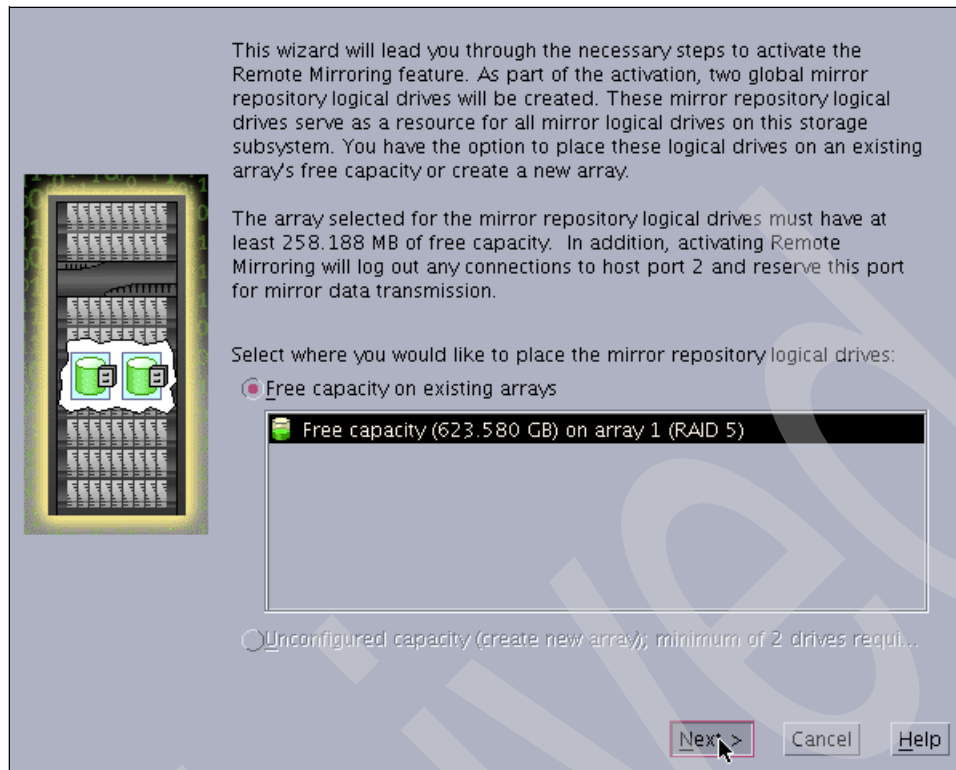

Figure 13-22 Activate Remote Mirroring Wizard: Introduction
2. The Activate Remote Mirroring Wizard: Introduction dialog is opened (Figure 13-22 on page 549).